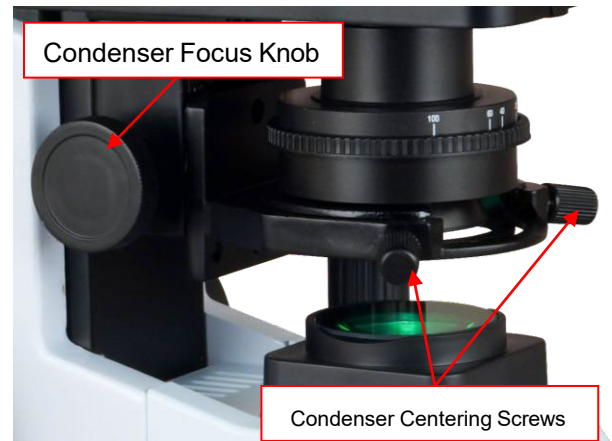

Fig.4
- 4) Turn the condenser focus knob (**Fig. 4**) to raise or lower the condenser till the image of field is focused.
- 5) Turn the condenser centering screws (**Fig. 4**) to move the image of the field into the center of the viewing field.